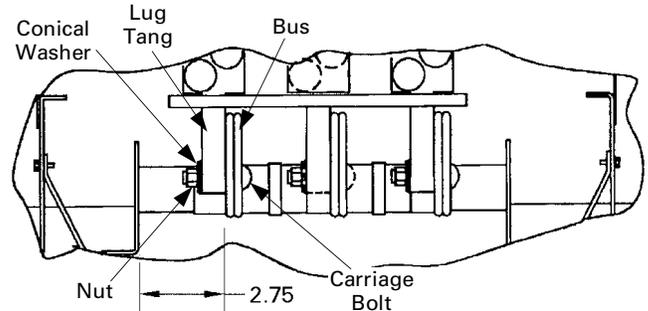

Figure 2. Lug tang position relative to the bus bars of a Spectra APNB bolt-on interior.
2. **Locate the mounting position.** For Spectra APNB bolt-on style interiors, locate the side of the panelboard interior in which the dimension from the nearest bus face to the inner face of the bus support rail is 2.75 inches, as shown in Figure 2. Lug tangs will be mounted on this side of each phase of the bus.
4. **Fasten lugs to the bus.** Fasten the lug tangs to the bus using a carriage bolt, flat washer, Belleville washer, and nut, making certain that the carriage bolt is fed through the bus first, as shown in Figures 2 and 3. Tighten these bolted connections to 200–250 in.-lb.